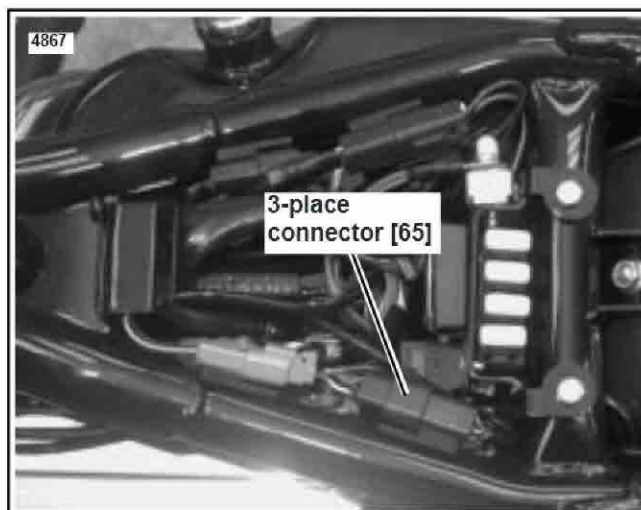

Figure 1. Speedometer Sensor Connection [65] - XLH
3. See Figures 1 and 2. The 3-place speedometer sensor connector [65] is located on the frame beneath the seat. Remove connector from t-stud and disconnect. Detach sensor harness from left frame tube.
5. See Figure 1. Route speedometer sensor cable into position under fuel tank and seat. Connect 3-place connector [65] under the seat.